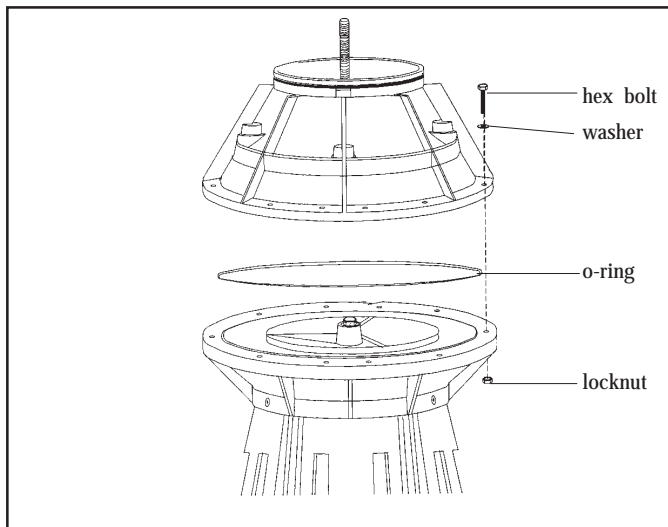

Figure 13
B. Installing diffuser housing and manifold assembly - see Figure 13
2. Install the manifold assembly onto the pump chamber and secure using (8) #10 flat washers, (8) hex bolts, and (8) nylon locknuts.